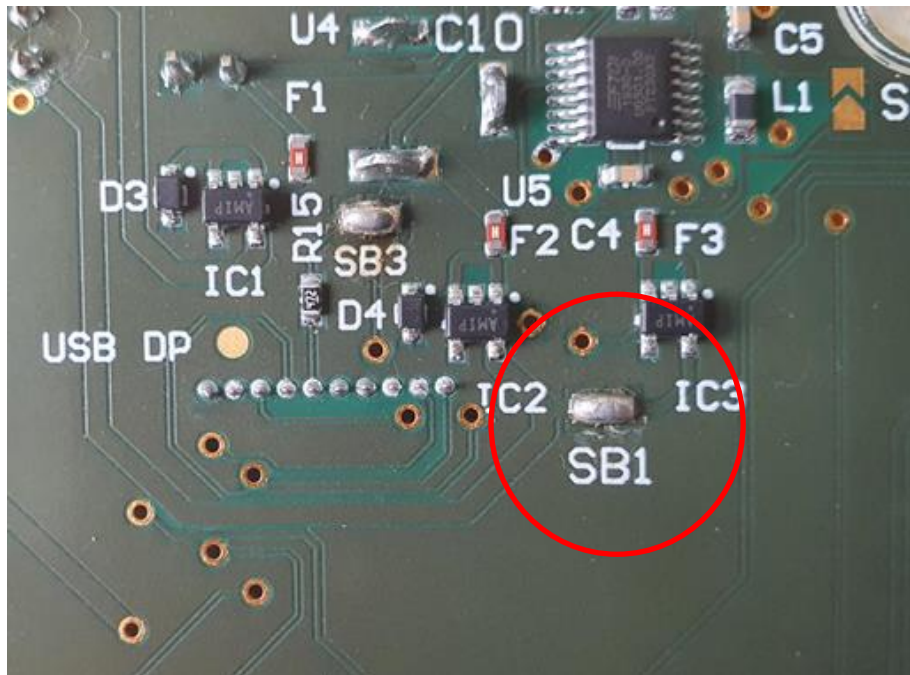

Figure 4: solder applied to solder bridge “SB1” to enable power over USB
- Apply solder to the solder bridge designated “SB1” on the underside of the motherboard, as per Figure 4.